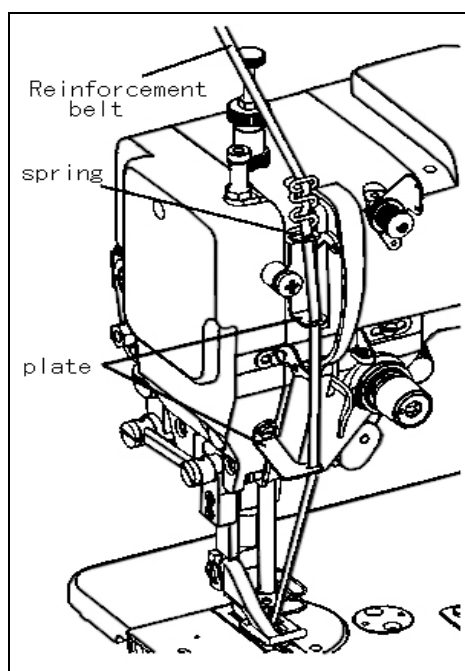

Fig. 41
35、Wearing reinforcing belt (Fig.41)
Referring to Figure 41 fot how to wear reinforcing belt, First make reinforcing belt going through spring (damping trough), then going through the zone plate with two long trough, finally put reinforcing belt into the long trough of press foot.